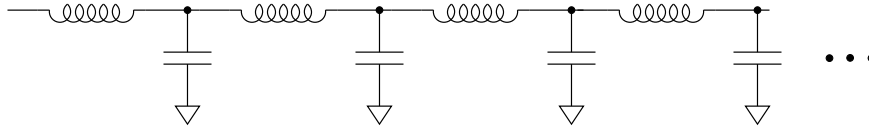

Figure 3: Model of a transmission line as distributed L and C .
To see this effect we use a better model of the cable which incorporates distributed L as well as C along the cable as shown in Figure 3. Note that there is also some distributed R , which leads to losses, but we ignore it here since it is small for good coax.
where dV is the drop across one of the little inductors in Figure 3, and dI is the current through the paired capacitor. The minus sign in (1) reflects Lenz' Law. Dividing both equations by dx , taking d/dt of (1) and d/dx of (2), and equating the terms $d^2V/dtdx$, we obtain the following “wave equations” for I and V :